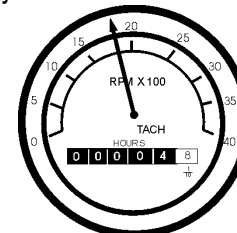

Figure 50. Engine Tachometer Gauge
12. The **tachometer gauge** (Figure 50) will indicate the speed of the engine when the generator is operating. Under normal operating conditions this speed is approximately 1800 RPM's.